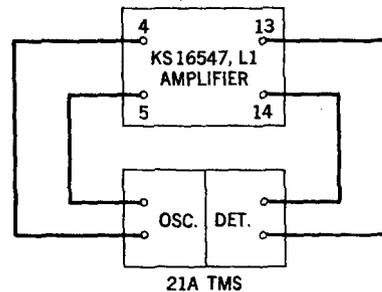

Fig. 1 - Test Setup for Gain-Frequency Test
5.01 The test setup for measuring the gain of the amplifier is shown in Fig. 1. Chart I outlines the step procedure to be followed when
3	Connect circuit as shown in Fig. 1.